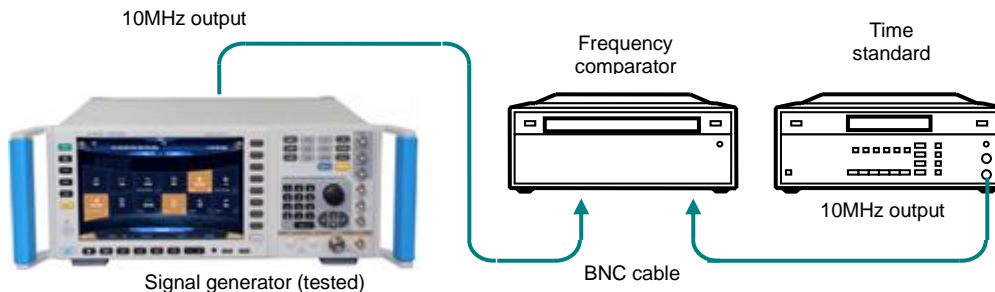

Figure 8.3 Internal Time Base Aging Rate Test
**Step 2. Connect the device as shown in Figure 8.3.**